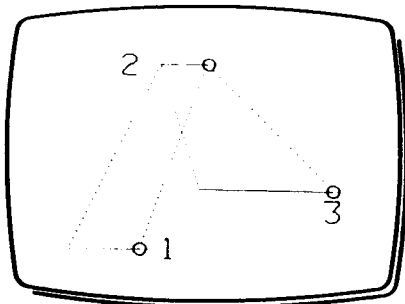

Fig 2
- 3 **Rotate Z to alter the width of the NIB, and move XY to position the NIB at (1) in Fig 2.**